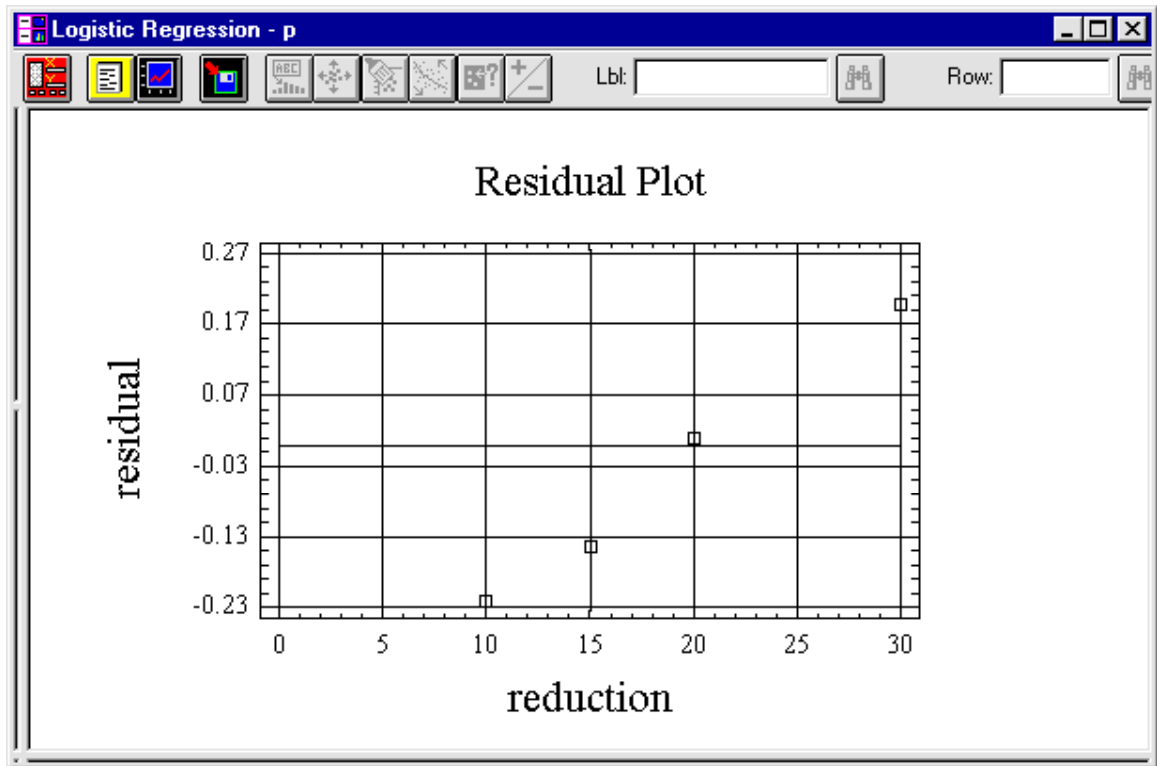

Figure 7-20. Residual versus X Scatterplot
The Residual versus X scatterplot displays the residual or studentized residual versus the independent variable (X). Use this plot to detect the nonlinear relationship between the dependent and independent variables (see Figure 7-20).